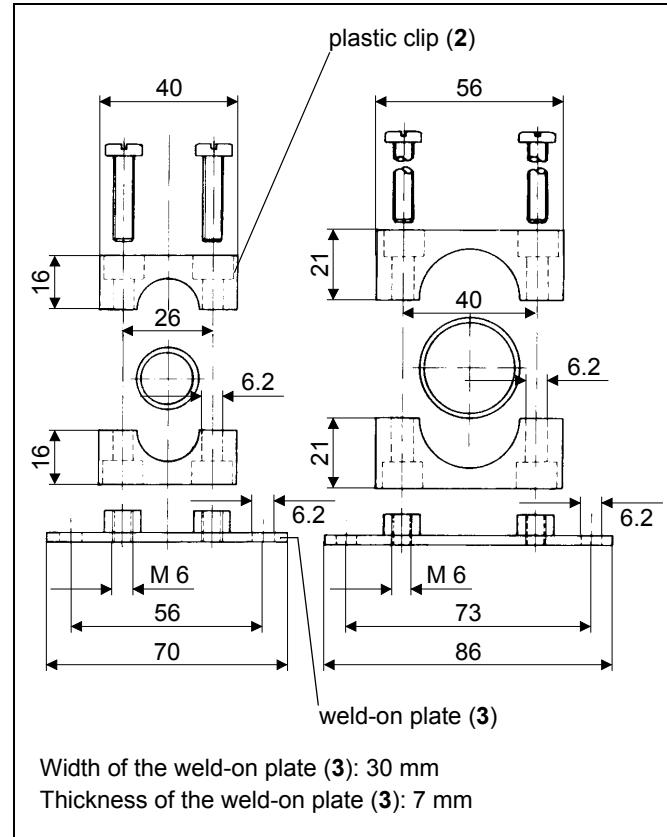

Fig. 5-2: Mounting the pulse generator
The pulse generators are delivered ready for operation. The fixing nuts (1) or the plastic clip (2) together with the weld-on plate (3) are included in the scope of supply (see fig. 5-2).